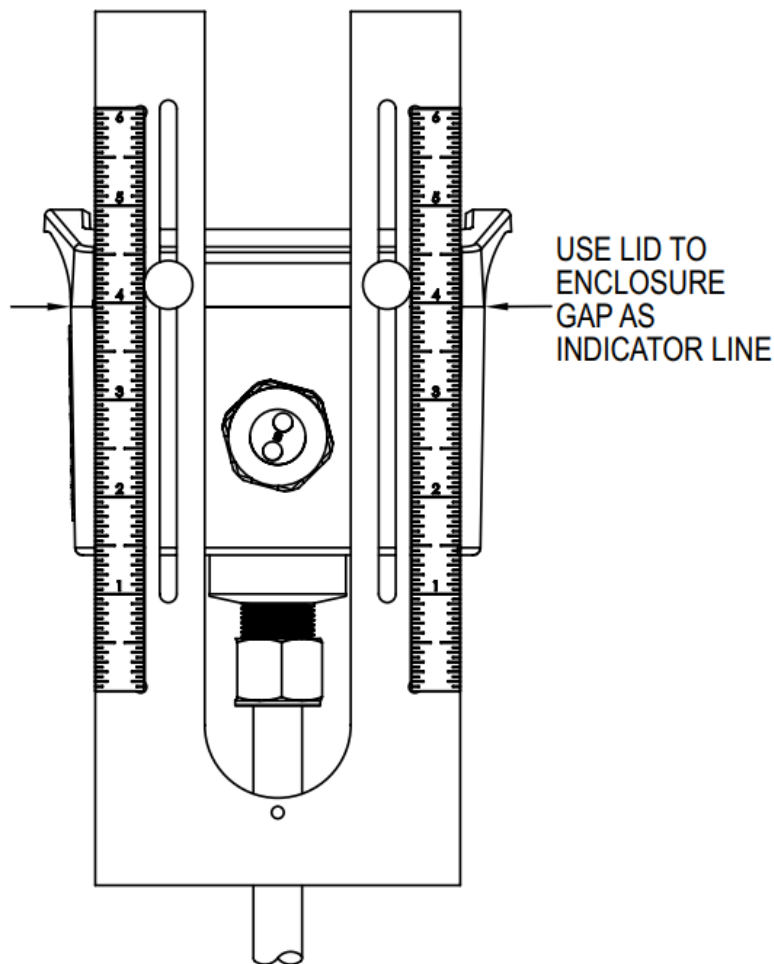

Figure 4
1. To prepare the meter for installation, mount the provided alignment scale to the side of the meter with the two provided thumbscrews. The thumbscrews are to be inserted through the alignment scale slots and into the holes in the side of the lid as shown in Figure 4, finger tighten only. Be sure to orient the alignment scale as shown in the figure below. The actual scale setting is determined in the next step.
2. Locate the configuration tag attached to the Series IEF to identify the value of the alignment scale setting. Position the alignment scale such that the scale setting is lined-up with the seam of the enclosure as shown in Figure 4. Minor scale marks are in 1/20ths. Securely tighten the thumbscrews.